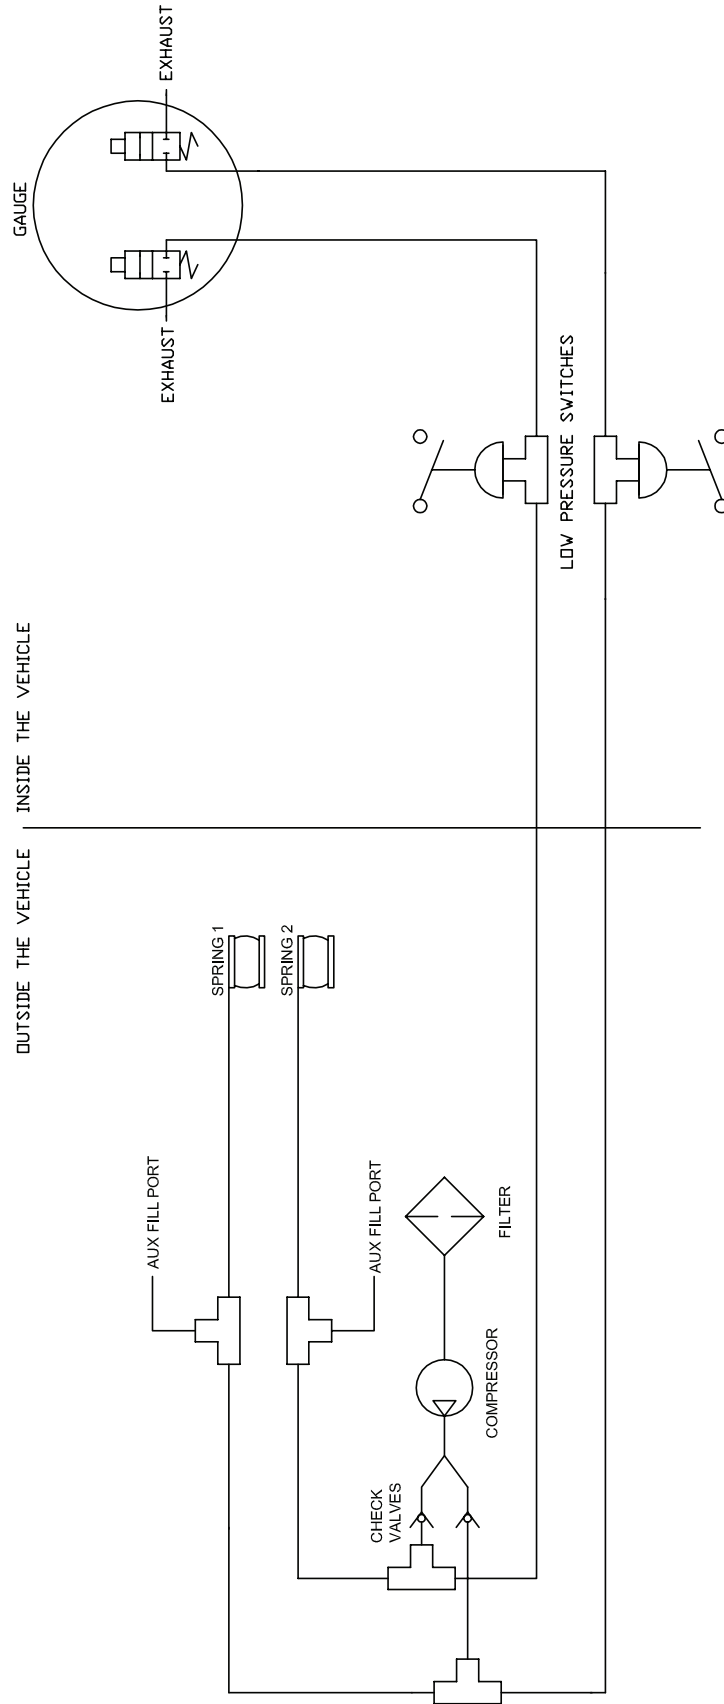

fig. 3
- e. Route air lines into cab from "T" fitting and attach to pressure switch assembly as shown in the pneumatic schematic (figs. 3 and 10).